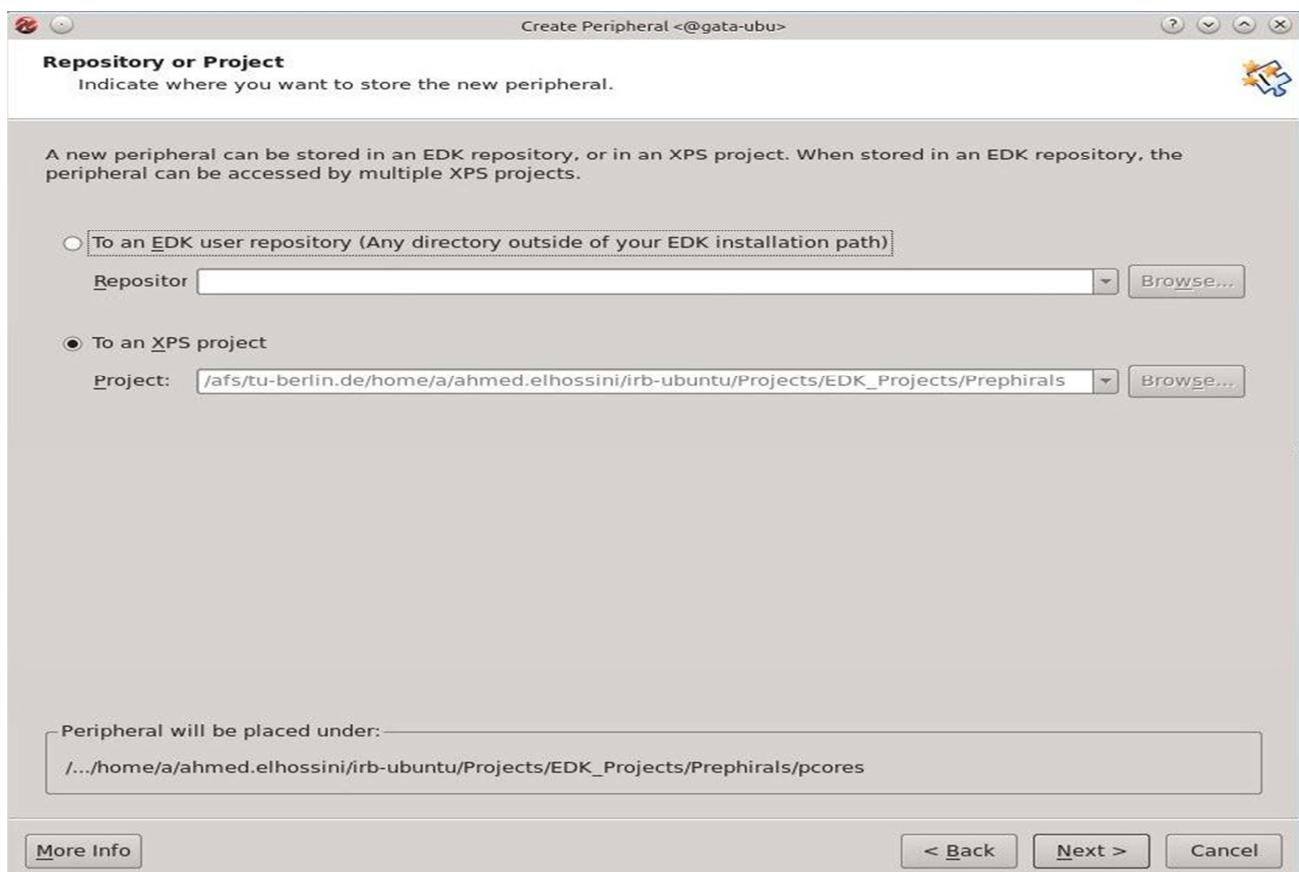

Figure4: Create and Import Peripheral Wizard (Step #3)
**Step 3:** The following window asks about the location where you want to store the files for your new peripheral. Here you have two options as show in **Figure 4**. The first option stores the core in a global repository so that it will be accessible in any project you create. The second option stores the new peripheral in your project local directory and so it will be accessible only in your project. Since this is just a tutorial select the second option and then press “**Next**”.